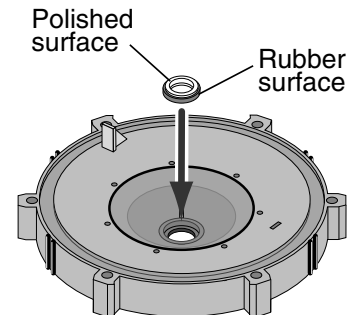

Figure 8
1. Ceramic seat must be clean and free of dirt, grease, dust, etc. Wet outer edge with small amount of liquid detergent; press ceramic seat into seal plate cavity firmly and squarely with finger pressure (see Figure 8).